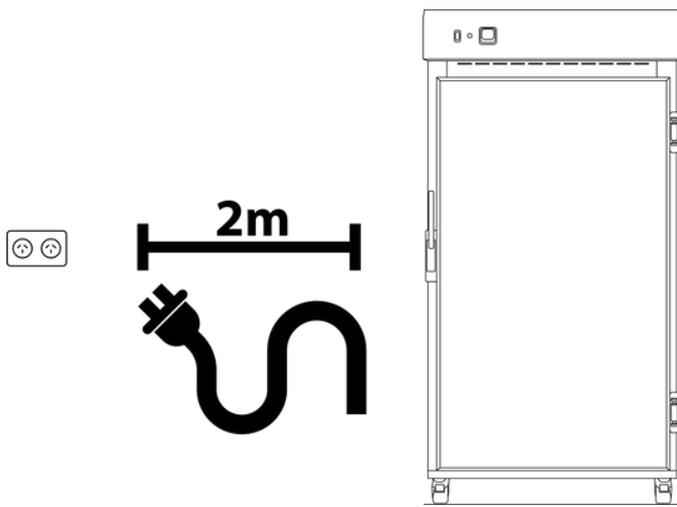

Fig 1. Suitable distance from power supply (2m)
- The incubator includes a 2.5m removable mains power lead with a three pin plug and right angle female IEC plug. Ensure the product is reasonably distanced from the power supply. (**Fig 1**)